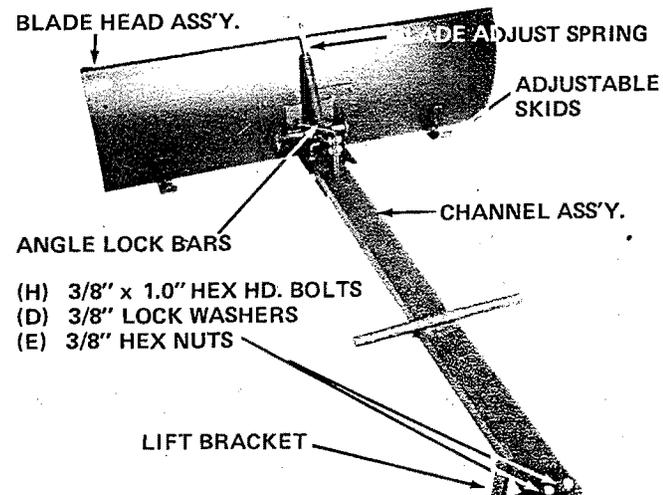

FIGURE 5
8. Position snow blade assembly in front of lawn tractor and roll lawn tractor forward over the channel until the cross shaft is centered below mounting brackets (A). See figures 5 and 11.